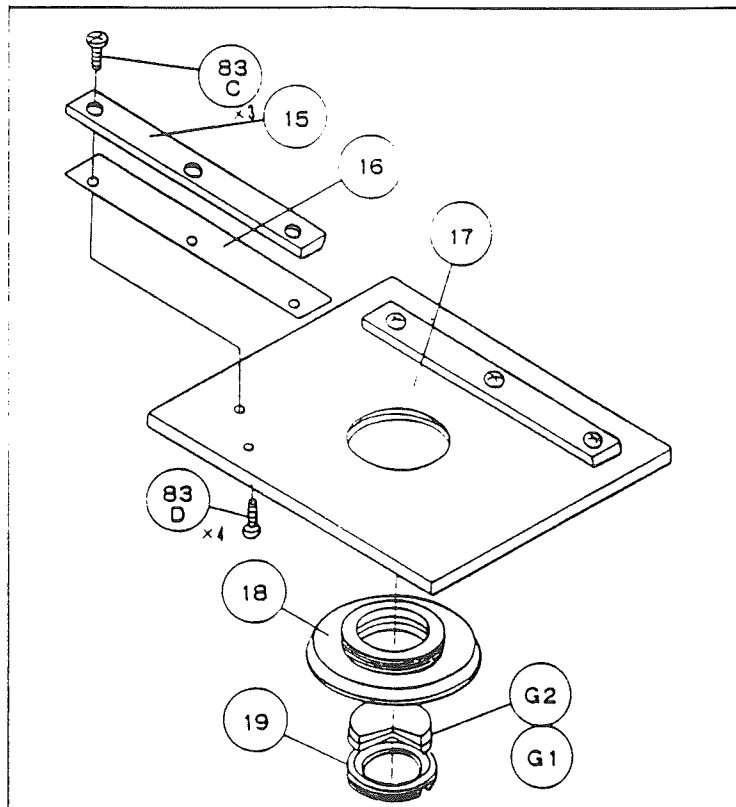

Fig. 25
- 1) Applying a trifle of adhesive No. 616 to the threaded part of mount (18), screw it into bottom plate (17) (Fig. 25).
- 2) Attach sliding plate (16) and dovetail groove (15) (the one that has not been disassembled) to (17), transitorily.
- 3) Perform the positioning of (15) in respect to (17) as below: